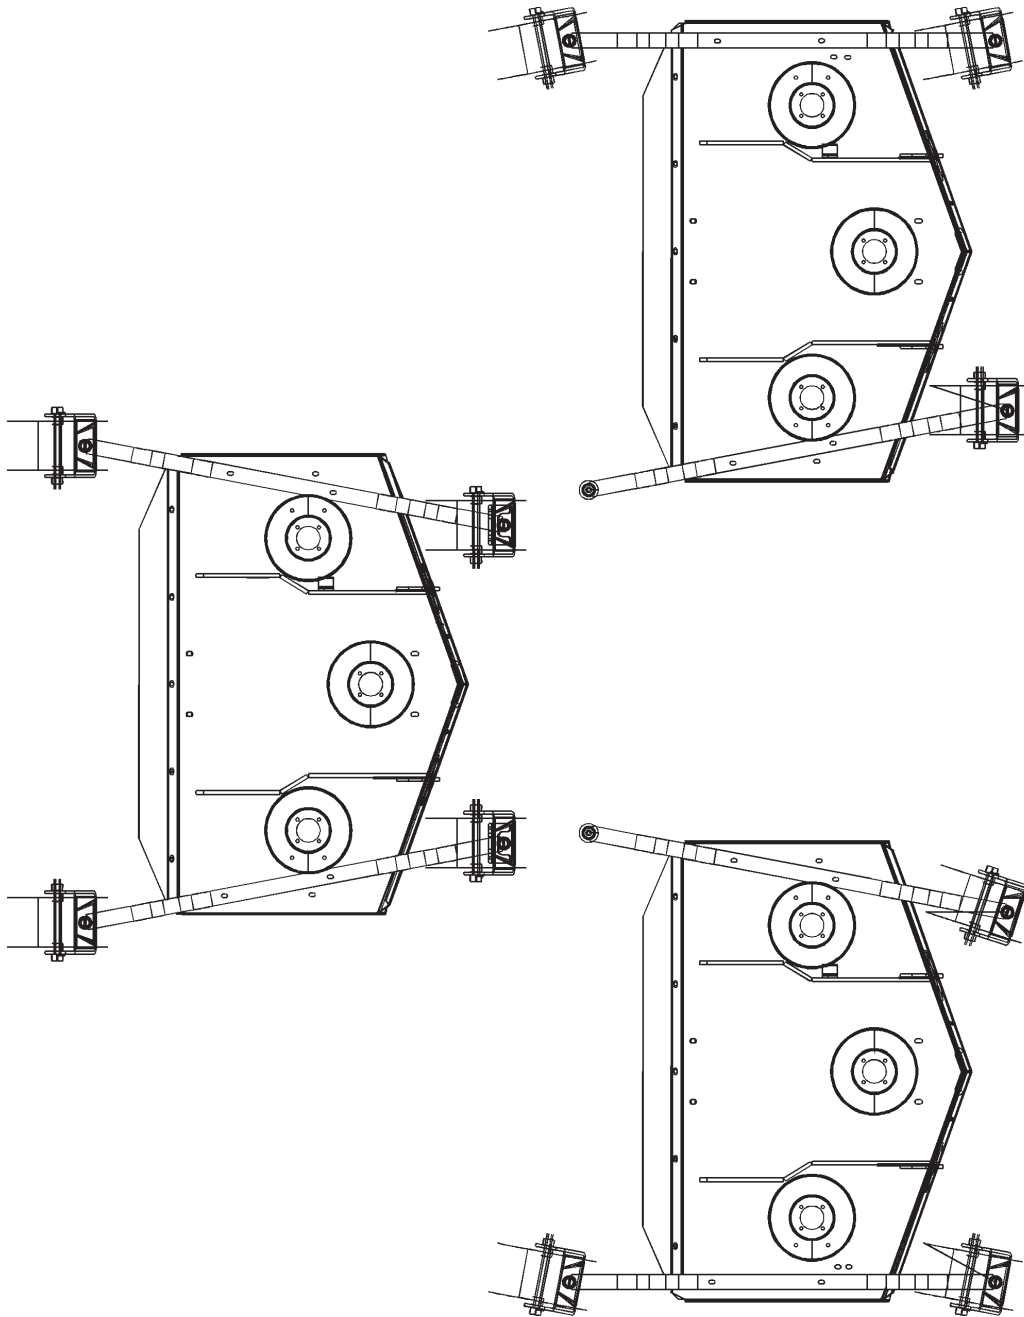

FIGURE 13
Attach the inside (1) and outside Axle Arm Weldments (1 or 1A) to the outer deck with 3/8" Gr. 2 bolt (2), flatwasher (1-1/2"OD x 3/16" thick) (3), and 3/8" locknut (4) installed in outer front hole. All other arm retaining bolts are Gr. 5, 3/8" bolts (5). See Fig. 13 & 14 for more details. Install spacer (7,8,9) and forks as describe in rear mower (Figure 8). The inside rear leg of the wing mowers will require a height adjustment shaft (11), spacer tube (12) and a spacer pad (13) installed with a 3/8" x 1 1/2" socket head screw (14).
Note bolt locations of Axle Arms on 60" Deck. **Figure 13.**
Remove the caps from the Hydraulic Manifold (6 Fig. 13) on the Main Frame. Hydraulic Hoses p/n 00763742 are used for the Wing Cylinders and p/n 00762693 is used for the Rear Cylinder. Hose p/n 00765738 attaches to the remote on the Tractor Hydraulics. On the Hose p/n 00765738 at the Tractor disconnect install Fitting p/n 02957691 (1/2 pipe thread x 1/4 J.I. C.).